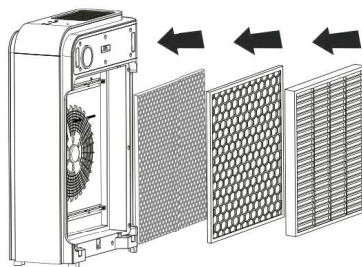

Fig. 5
6. Install the filters inside the air purifier in the following sequence (fig. 5):
- Photocatalytic (honeycomb) filter (5)
- carbon filter (4) (black)
- HEPA filter (3) (white)